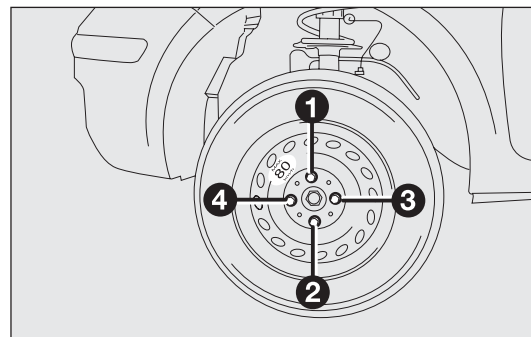

fig. 127
- ❑ fully tighten the bolts, passing alternatively from a bolt to the opposite one, following the order shown in fig. 127.